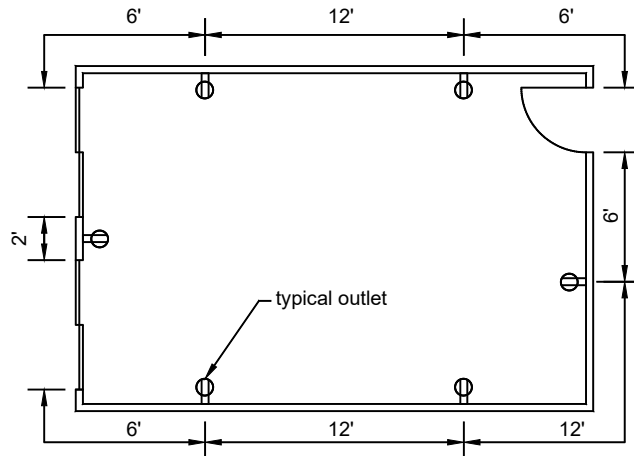

FIGURE 16: TYPICAL OUTLET DISTRIBUTION
- Outlets shall be placed in accordance with FIGURE 16.